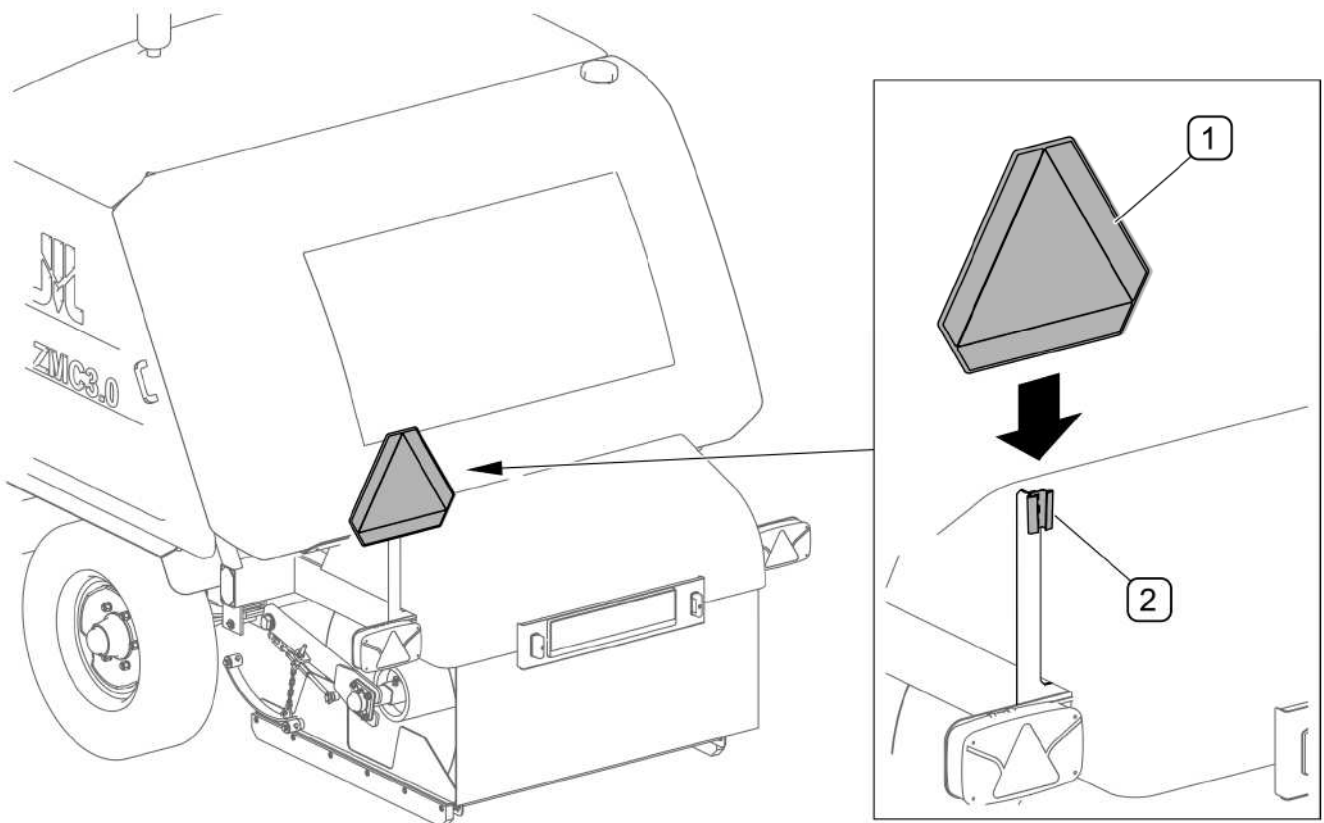

FIG. 4.15 **Warning sign installation**
(1) - slow-moving vehicle warning sign (not included in the machine equipment); (2) - bracket
While driving on public roads, the machine should be marked with slow-moving vehicle warning sign (1) placed on the rear of the machine (FIG. 4.15) The warning sign is installed in special bracket (2) located at the rear on the left side of the machine.